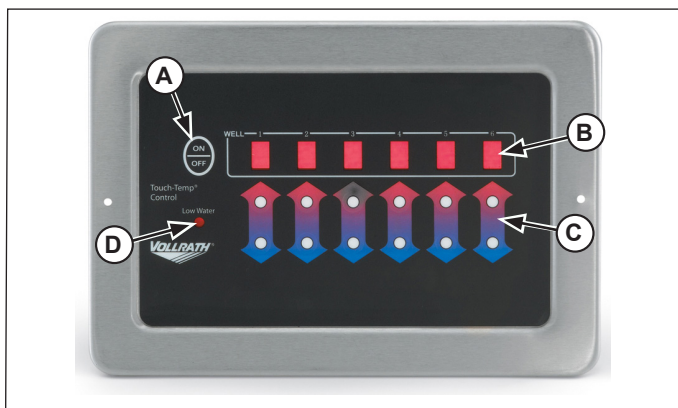
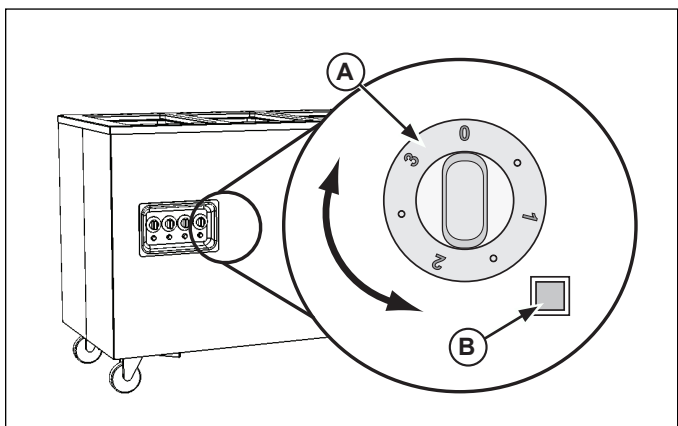

Figure 2. Digital Hot Station Controls
Figure 3. Manual Hot Station Controls
4. Preheat the water in the wells by covering wells with empty food containers or covers. Turn the power switch (A) to the "ON" position and set the heat setting switch(es) (C) to the maximum setting. See Figure 2. Or, turn the temperature control (A) to the maximum heat setting. See Figure 3. Preheat for 45 minutes. The water will be boiling.
7. Set the heat setting switch(es) (C) to maintain proper hot holding temperature for food safety. Regularly check food temperature.
8. When finished using the unit. Turn the heat setting switch(es) (C) to "0" setting, turn the power switch (A) to the "OFF" position and unplug. See Figure 2. Or, turn the temperature control (A) to the "0" setting and unplug. See Figure 3. When removing hot food containers from unit use gloves, mitts or pot holders to protect hands.